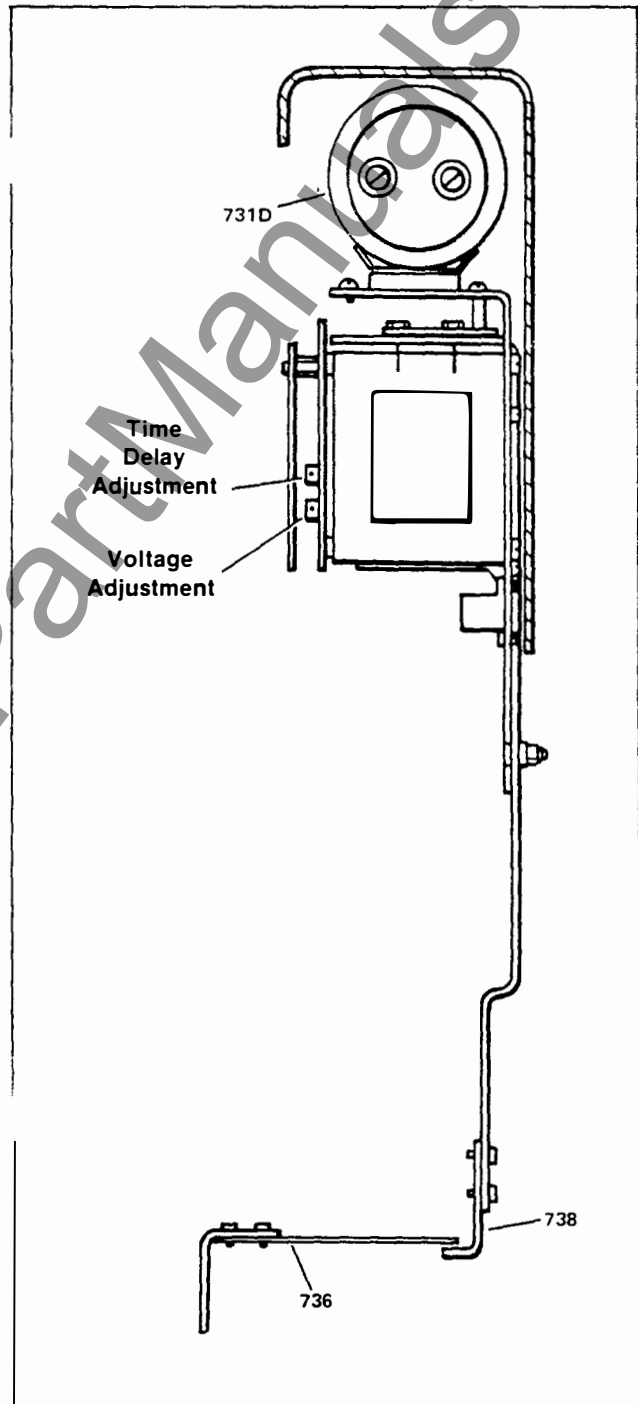

Figure 12. Undervoltage Trip With or Without Time Delay
The undervoltage trip device (Fig. 12) automatically trips the breaker on loss of voltage. Either instantaneous or time-delay operation can be supplied. A .06 inches gap should be maintained between flap extension and pull link (738) when the device is energized with the breaker closed. Pick-up and drop-out is set so that the device picks up at a voltage of 85% or less of rated value and drops out between 30% and 60% of the rated value.